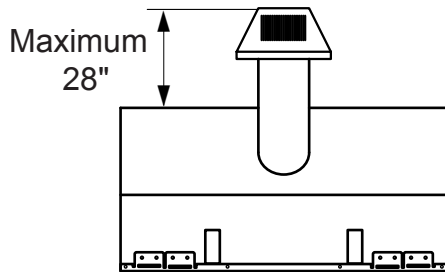

Figure 11 - Rear Vent Application using 2 foot vertical rise. Maximum Horizontal Distance
- The maximum horizontal distance between the rear of the appliance and the outside of termination is 28" (711 mm). See Figure 11.
1. Locate and cut the vent opening in the wall. For combustible walls first frame in opening. See Figure 11.
hole is acceptable). See Figure 11. The center of the hole should line up with the center line of the horizontal rigid vent pipe end. Be sure to allow for minimum rise.